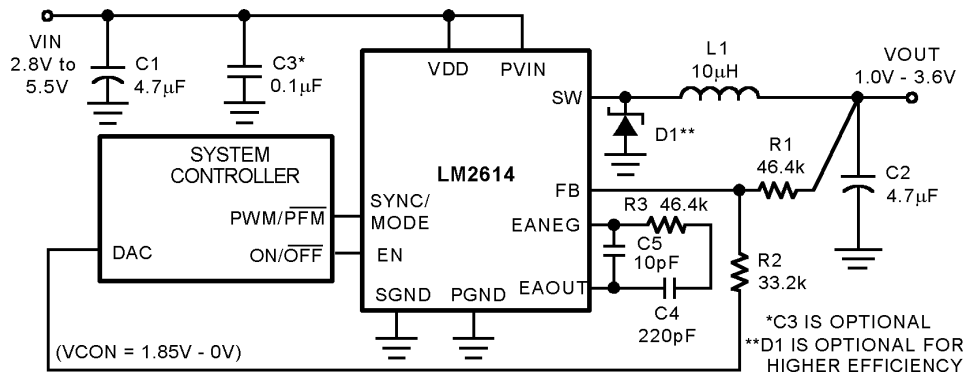

Figure 23. Typical Operating Circuit
- (1) The LM2614 is designed for mobile phone applications where turn-on after system power-up is controlled by the system controller. Thus, it should be kept in shutdown by holding the EN pin low until the input voltage exceeds 2.8V.
- (2) The hysteresis voltage is the minimum voltage swing on the FB pin that causes the internal feedback and control circuitry to turn the internal PFET switch on and then off during PFM mode. When resistor dividers are used like in the operating circuit of Figure 23, the hysteresis at the output will be the value of the hysteresis at the feedback pin times the resistor divider ratio. In this case, 24mV (typ) x ((46.4k + 33.2k)/33.2k).
- (3) Current limit is built-in, fixed, and not adjustable. If the current limit is reached while the voltage at the FB pin is pulled below 0.7V, the internal PFET switch turns off for 2.5μs to allow the inductor current to diminish.
LM2614ATL, Circuit of Figure 23, $V_{IN} = 3.6V$, $T_A = 25^\circ C$, unless otherwise noted.
DC PWM mode feedback voltage precision is $\pm 1\%$. Efficiency is typically 96% for a 200mA load with 3.6V output, 3.9V input. The efficiency can be further increased by using a schottky diode like MBRM120 as shown in Figure 23. PWM mode quiescent current is 600µA typ. The output voltage is dynamically programmable from 1.0V to 3.6V by adjusting the voltage on the VCON at the external feedback resistors. This ensures longer battery life by being able to change the PA supply voltage dynamically depending on its transmitting power.
Referring to Figure 23, Figure 24, Figure 25 and Figure 26, the LM2614 operates as follows. During the first part of each switching cycle, the control block in the LM2614 turns on the internal PFET switch. This allows current to flow from the input through the inductor to the output filter capacitor and load. The inductor limits the current to a ramp with a slope of $(V_{IN} - V_{OUT})/L$, by storing energy in a magnetic field. During the second part of each cycle, the controller turns the PFET switch off, blocking current flow from the input, and then turns the NFET synchronous rectifier on. In response, the inductor's magnetic field collapses, generating a voltage that forces
(Circuit in Figure 23)
The LM2614 uses external components connected to the EANEG and EAOUT pins to compensate the regulator (Figure 23). Typically, all that is required is a series connection of one capacitor (C4) and one resistor (R3). A capacitor (C5) can be connected across the EANEG and EAOUT pins to improve the noise immunity of the loop. C5 reacts with R3 to give a high frequency pole. C4 reacts with the high open loop gain of the error amplifier and the resistance at the EANEG pin to create the dominant pole for the system, while R3 and C4 react to create a zero in the frequency response. The pole rolls off the loop gain, to give a bandwidth somewhere between 10kHz and 50kHz, this avoids a 100kHz parasitic pole contributed by the current mode controller. Typical values in the 220pF to 1nF (C4) range are recommended to create a pole on the order of 10Hz or less.